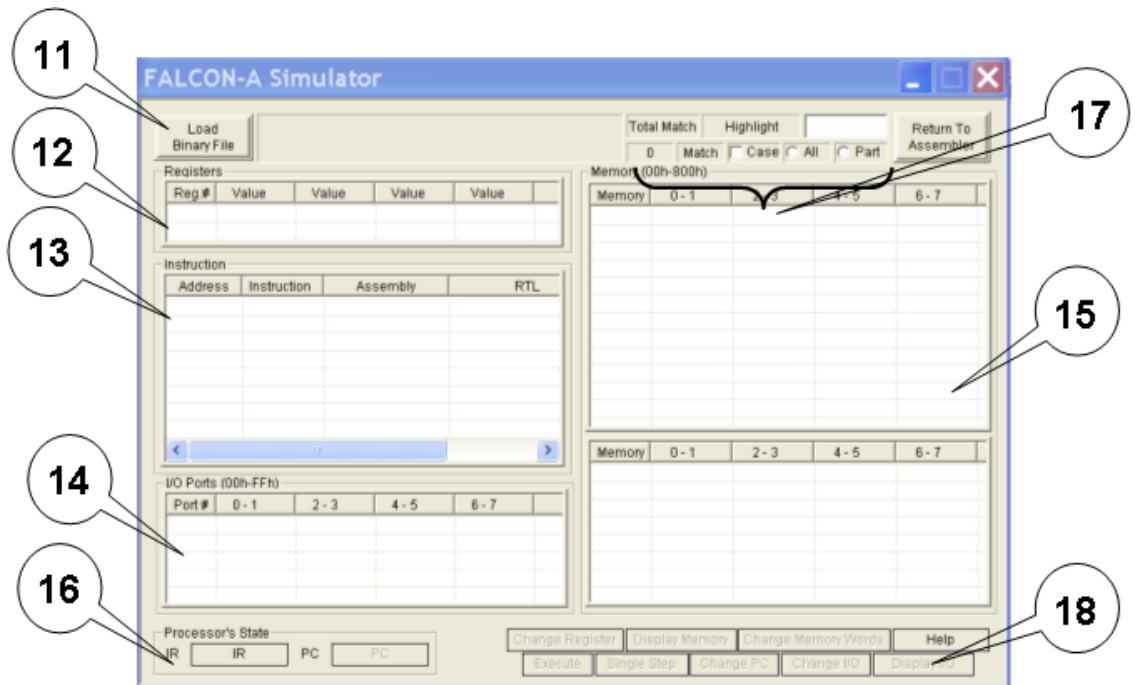

Figure 6
Figure 6 shows a snapshot of the GUI for the FALCON-A Simulator. This tool loads a FALCON-A binary file with a (.binfa) extension and presents its contents into different areas of the simulator. It allows the user to execute the program to a specific point within a time frame or just executes it, line by line. It also allows the user to view the registers, I/O port values and memory contents as the instructions execute.
*Load Binary File:* The button labeled as “11” in Figure 6, allows the user to choose and open a FALCON-A binary file with a (.binfa) extension. When a file is being loaded into the simulator all the register, constants (if any) and memory values are set.
*Registers:* The area labeled as “12” in Figure 6. enables, the user to see values present in different registers before, during and after execution.
*Instruction:* This area is labeled as “13” in Figure 6 and contains the value of PC, address of an instruction, its representation in Assembly, the Register Transfer Language, the op-code and the instruction type.
*I/O Ports:* I/O ports are labeled as “14” in Figure 6. These ports are available for the user to enter input operation values and visualize output operation values whenever an I/O operation takes place in the program. The input value for an input operation is given by the user before an instruction executes. The output values are visible in the I/O port area once the instruction has successfully executed.
*Memory:* The memory is divided into two areas and is labeled as “15” in Figure 6, to facilitate the view of data stored at different memory locations before, during and after program execution.
*Processor’s State:* Labeled as “16” in Figure 6, this area shows the current values of the
*Highlight:* The highlight option for the FALCON-A simulator is labeled as “17” in Figure 6. This feature is similar to the way the highlight feature of the FALCON-A Assembler works. It offers to highlight the search string which is entered as an input, with the “All “ and “ Part “ option. The results of the search are highlighted using the yellow color. It also indicates the total number of matches.
The following is a description of the options available on the button panel labeled as “18” in Figure 6.
- To start the simulator, click on the start simulation button labeled as “6”. This will open the dialog box shown in Figure 6.